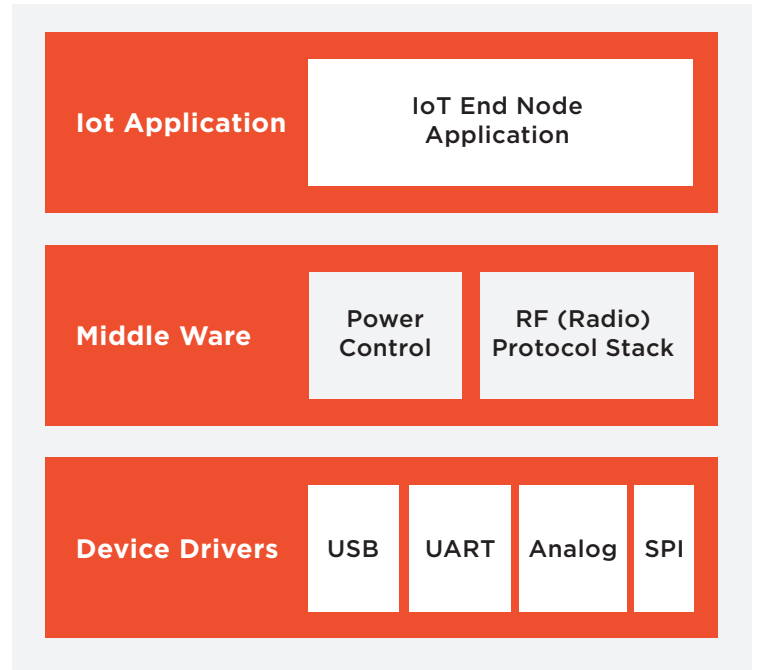

Figure 7: Typical IoT Device Software Architecture
A basic IoT device will have typical software (SW) architecture as depicted in Figure 7 to the right.
- First, there is a **hardware (HW) layer**. This is an assortment of lower level device drivers to connect to a USB, a UART, analog or digital interfaces, in essence providing a HW abstraction layer to the middleware.